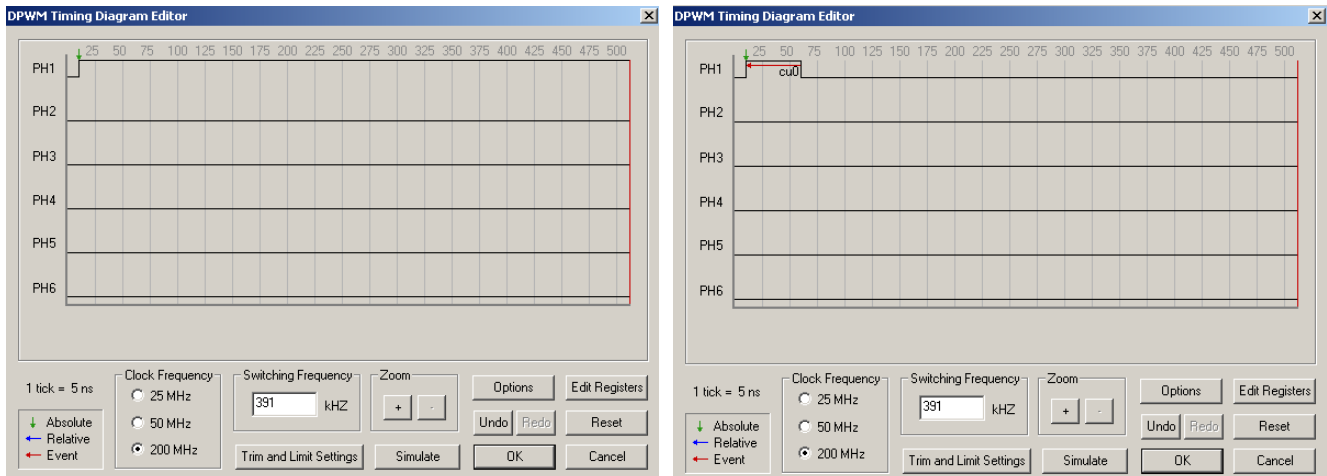

Figure 9. DPWM Timing Diagram Editor—Phase 1
2. To create an absolute edge on Phase 1, hold the mouse above the Phase 1 zero timing line (default) at time tick 10. Then, either double click with the left mouse button or right-click at that point and select **Absolute Edge**. An absolute edge at time tick 10 will be created (see Figure 9).
3. To finish the timing for Phase 1, specify hardware modulation using (**Cu0**). This event edge will be modulated relative to its absolute edge at time tick 10. To create this edge, hold the mouse above the Phase 1 timing line to the right of time tick 10 at time tick 60. Either double-click or right-click at that point and select **Event (Cu0) Edge**. Next, select the edge to reference by clicking on edge 1 in Phase 1. A relative falling (Cu0) edge will be created at time tick 60 since  $u(n)$  defaults to 50 (see Figure 9).